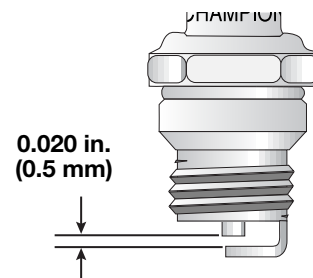

Fig. 30
3. Replace a cracked, fouled or dirty spark plug. Set the air gap at **0.020 in. (0.5 mm)** using a feeler gauge (Fig. 30).